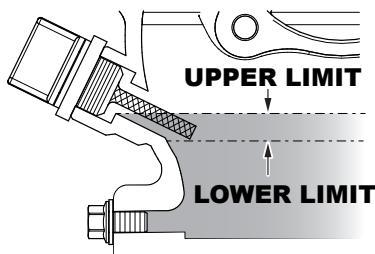

Figure 6. Engine Oil DipStick (Oil Level)
4. If the oil level is low (See Figure 6), fill to the edge of the oil filler hole with the recommended oil type (Table 3 and Table 6). Maximum oil capacity is 1.80 quarts(1.7 liters).